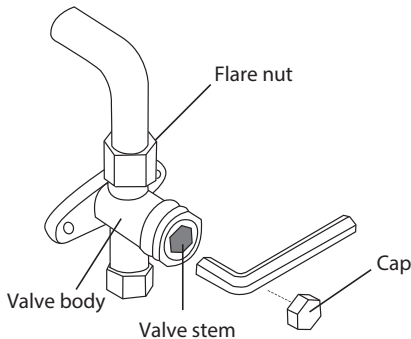

Fig. 24 — Service Valve Diagram
9. Insert a hexagonal wrench into each Gas Side Service Valve for size 18 or into the Master Gas Side Service Valve for sizes 24–48 and open the valve by turning the wrench 1/4 counterclockwise. Listen for gas to exit the system (see Fig. 24).
12. Using a hexagonal wrench, fully open all the gas and liquid service valves for the size 18 and all the Master Gas and Liquid service valves for sizes 24–48 (see Fig. 24).